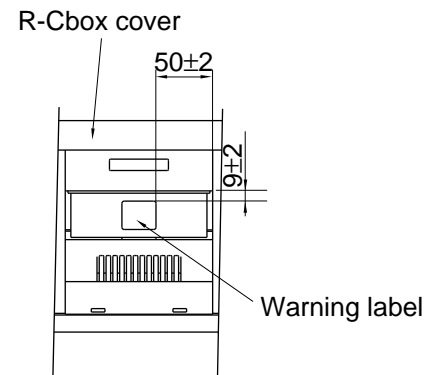

Fig. A-20
6. Stick warning label on R-cbox cover as shown Fig. A-20.